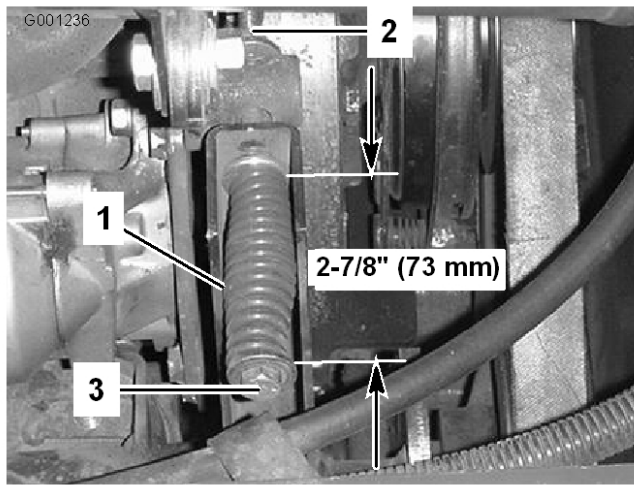

Figure 60
3. Loosen the tensioning rod jam nut (Figure 60).
- Use a 1/2 inch wrench to tighten or loosen the belt tensioning spring (Figure 60). Adjust spring to a length of 2-7/8 inches (73 mm).
- Loosen the tensioning rod jam nut (Figure 60).
- Using a 1/2 inch wrench, loosen the belt tensioning spring (Figure 60) all the way.
- Install the new PTO belt and tension the pulley spring to 2-7/8 inches (73 mm) (Figure 60).
- Tighten the jam nut (Figure 60) and close the hood.